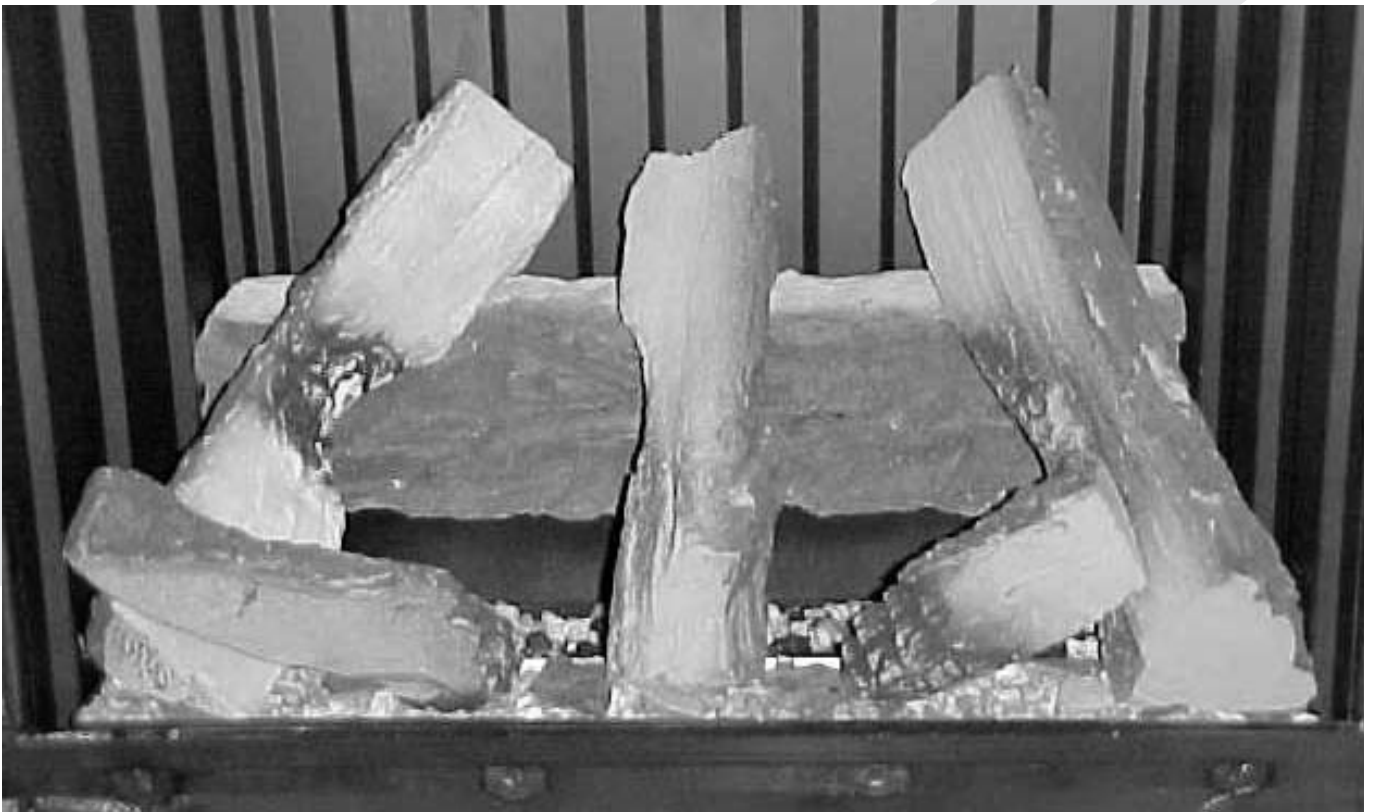

fig. 5
- Now lay the rest of the logs in place as illustrated in fig. 5.